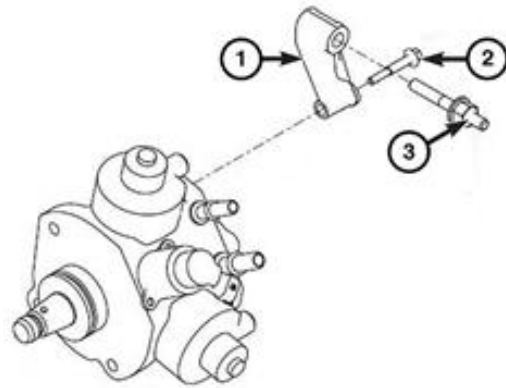

Figure 12 – HPFP Support Bracket
34. Remove fuel pump support bracket mounting bolts (2, 3), and remove bracket (1) (Figure 12).